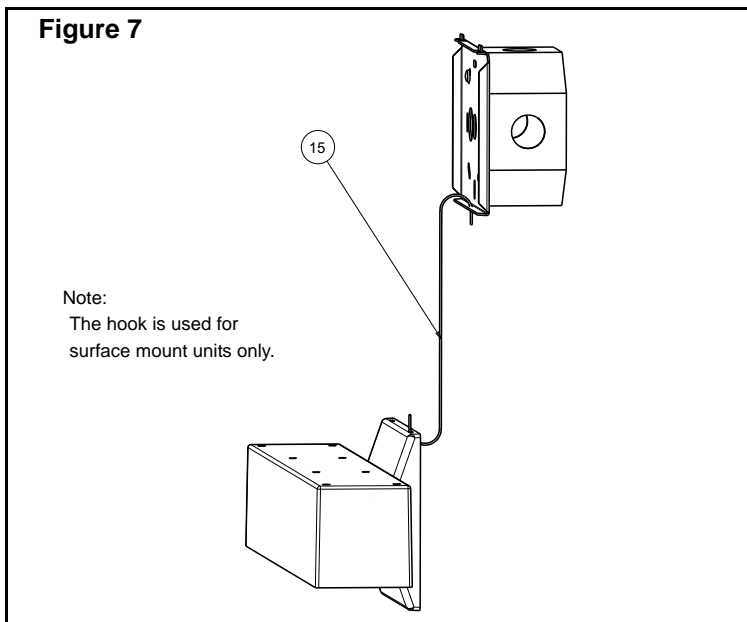

Figure 7
| | 15. Hook (refer to fig.7) |
6. Using the hook provided, hang the canopy/back box assembly to the canopy plate (figure 7).